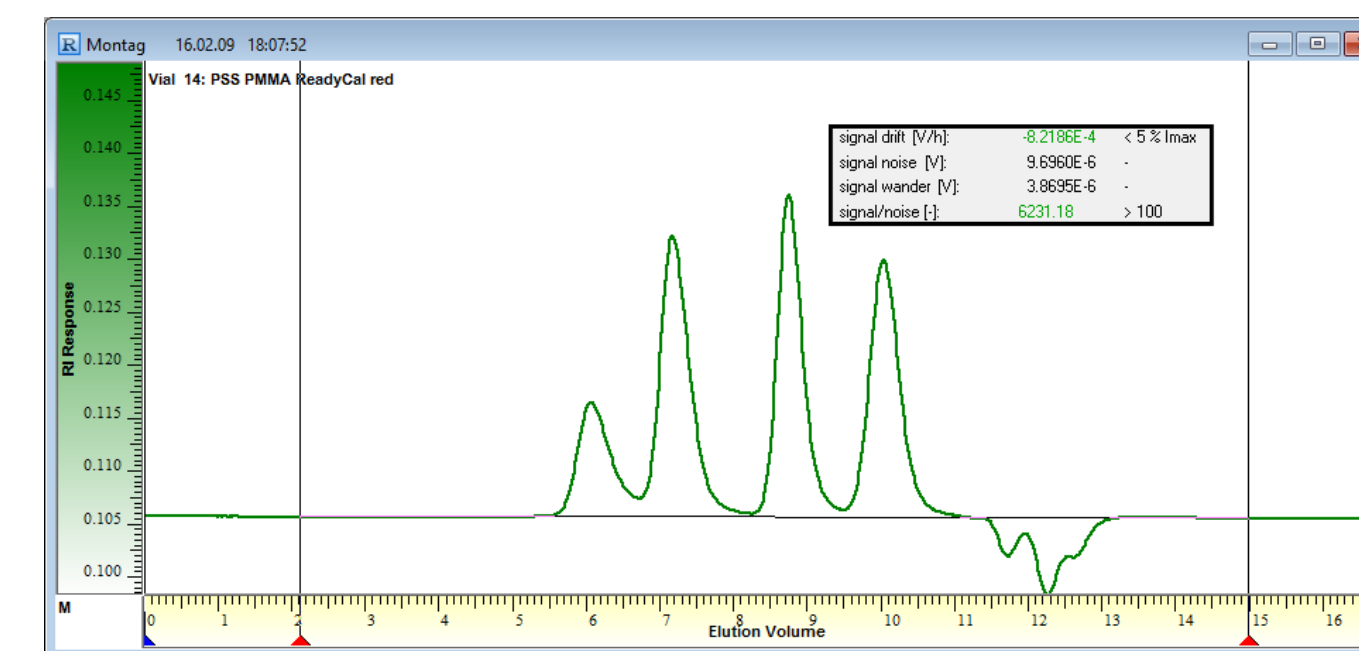

Figure 2. Refractive index chromatogram of a PMMA standard mixture with typical system peaks. The insert shows drift, noise, wander, and S/N (ISO13885-1).
Figure 2 displays a common RI trace of a mixture of four different polymethyl methacrylate (PMMA) standards of different molar masses. The system peaks at the end of a chromatogram are very common. These peaks are usually negative, but a combination of negative and positive peaks can also occur.
- The signal area increases with increasing concentration. In Figure 2, all PMMAs have the same dn/dc , so the same concentrations should result in identical peak areas. This holds true for this example, as the highest molar mass (eluting around 6 mL) has only half of the concentration compared to the other three samples, resulting in a peak area half the size.⁵
- The signal area increases with higher dn/dc . If, for example, a polystyrene (PS) mixture with the same molar masses and concentrations is run (THF at 35 °C), the PS peaks will be larger than the PMMA peaks, due to higher dn/dc of PS compared to PMMA in THF. For isorefractive samples with a dn/dc of zero, no signals (or only small signals resulting from end groups) will be obtained with an RI.